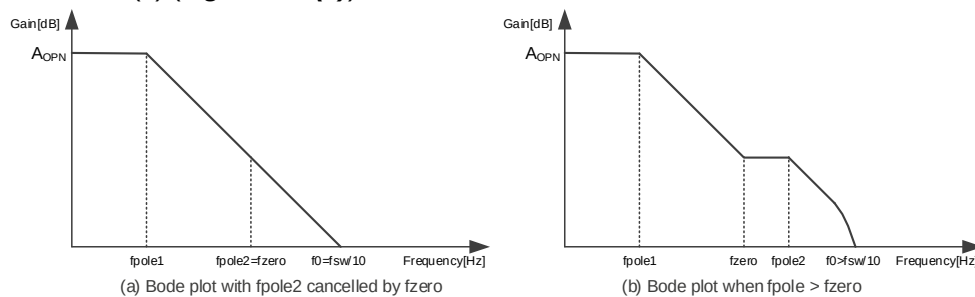

Figure 5-4 Image Diagram of Bandwidth and Phase Compensation for the Buck Switching Regulator
- (1) f_{pole1} : 1st pole determined by g_m amplifier output resistance R_{oSR} and phase compensation capacitance (C5)
- (2) f_{pole2} : 2nd pole determined by VDRV pin output resistance R_{OUT} and output capacitance (C4)
- (3) f_{zero} : Zero determined by phase compensation resistance (R6) and phase compensation capacitance (C5)
- (4) Double pole at half switching frequency ($f_{sw}/2$)
The target bandwidth (f_0) is set to 1/10 or less of the switching frequency (f_{sw}) to avoid stability degradation due to the phase delay of (4). The stability is ensured by setting (1) to match the target bandwidth (f_0) and canceling the pole (2) with the zero (3) (**Figure 5-4 (a)**).
If $V_{DRV} = 12$ V, $I_o = 0.5$ A, $C_5 = 2200$ pF, $C_4 = 5.5$ μF (effective capacitance value), then $R_6 = 60$ kΩ ≈ 60.4 kΩ. The output capacitor (C_4) on the VDRV pin should be calculated with the effective capacitance value considering DC bias characteristics. The 2nd pole (f_{pole2}) depends on the output capacitance (C_4). If the effective capacitance value is smaller than the value used in the calculation example, the 2nd pole (f_{pole2}) becomes a higher frequency than expected, and the actual bandwidth increases from the target bandwidth (f_0) as shown in **Figure 5-4 (b)**. It causes the double pole (f_{pole1n} , f_{pole2n}) at a frequency of 1/2 of the switching frequency (f_{sw}) to be more susceptible and may affect stability.